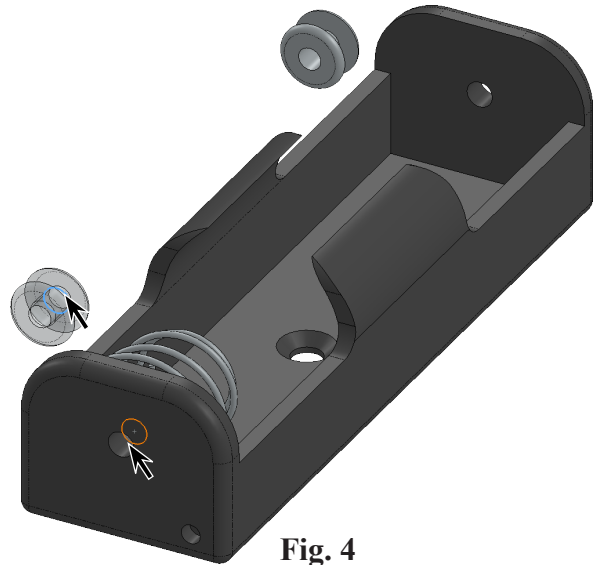

Fig. 4
Step 1. Click **rear edge inside Rivet cut** and **rear edge of front hole in Battery Holder**, Fig. 4.